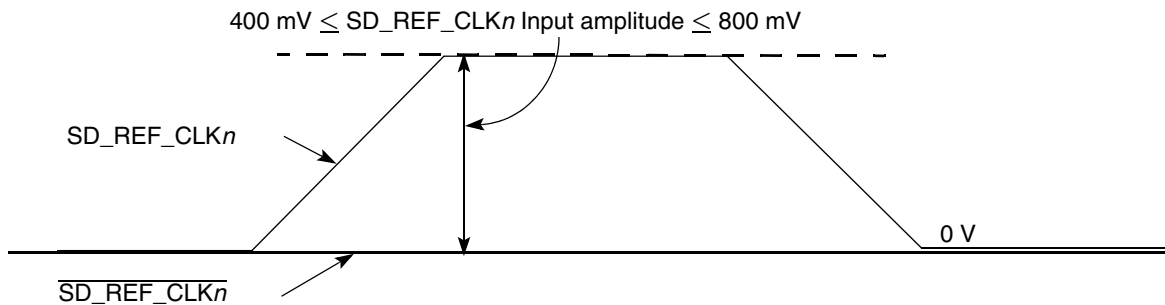

Figure 36. Single-Ended Reference Clock Input DC Requirements
- The $\overline{\text{SD_REF_CLK}n}$ input average voltage must be between 200 and 400 mV. Figure 36 shows the SerDes reference clock input requirement for single-ended signaling mode.